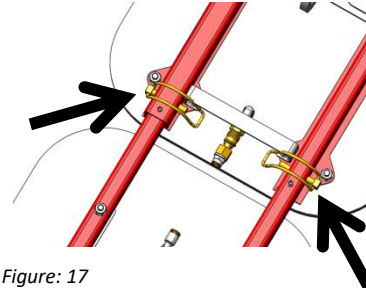

Figure: 17
- Secure the extra suction cup in place by inserting a split pin into the holes in both tubes and locking them in place (see figure 17).